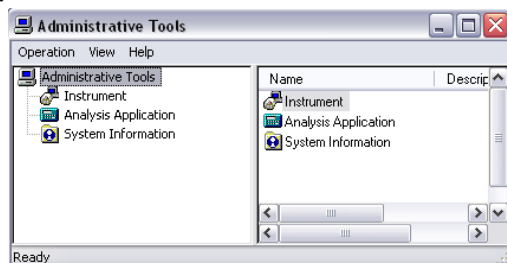
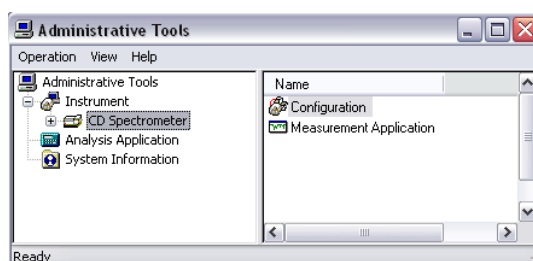
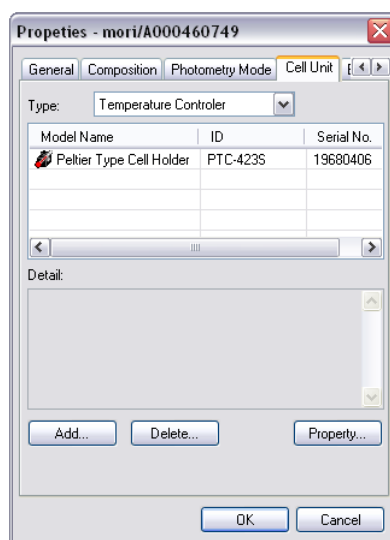

Figure 2.1 [Administrative Tools] window
Figure 2.6 [Administrative Tools] window
Figure 2.9 [Administrative Tools] screen after a successful installation
Registration of the Peltier accessory is done from the [Administrative Tools] window. Open the [Administrative Tools] window of Figure. 2.1 and to display the [CD Spectrometer] menu shown in Figure. 2.6 (the [CD Spectrometer] menu is in the [Instrument] menu of the [Administrative Tools] window).
**Note (1):** The COM port for the Peltier accessory must be COM2 if that for the spectrometer is set to COM1.
**Note (2):** The COM port setting for the spectrometer can be done from the [Properties] screen which appears when the <General> tab is clicked. Refer to the “J-800 Series Operation Manual” for more information.
- (9) Click the <OK> button of Figure. 10. It returns to the screen shown in Figure. 2.9.
- (10) Click the <OK> button of Figure. 2.9. It returns to the [Administrative Tools] window of Figure. 2.6.
- (11) The registration procedure is completed by closing the [Administrative Tools] window of Figure. 2.6.